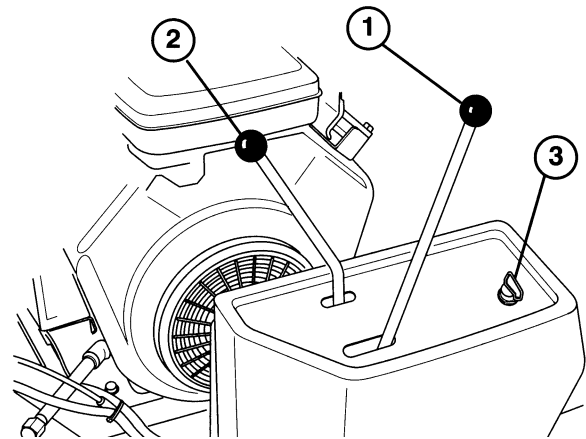
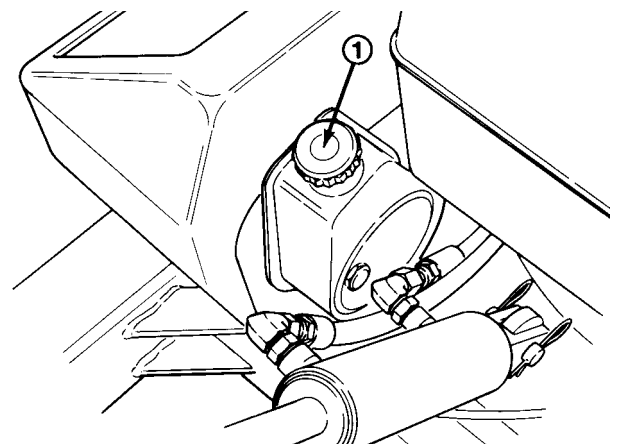

Figure 6
Figure 7
Traction Drive Lever (Fig. 6)—Shift to the desired gear and move the traction drive lever to the engage position to move forward or reverse. One of the hand-operated interlock levers (Fig. 7).
Coring Head Lever (Fig. 6)—Raises and lowers the coring head and engages and disengages the drive.
Interlock Lever Switches (2) (Fig. 7)—Switches permit engine operation when the coring head is lowered. They also hold the traction drive lever in the engaged position. One handle switch must be activated before engaging the traction drive or lowering the coring head when engine is running.
Service Brake (Fig. 7)—Used to slow the traction operation.